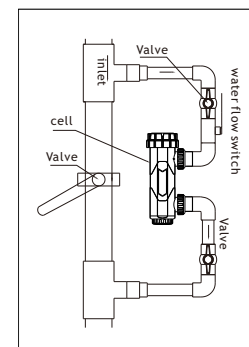

Figure 4
1. Install the electrolytic cell on the bypassed pipes after filtration of the pool cycling pipe system. And a valve must be installed in the main pipe. (see figure 4)
2. The water flow switch must be installed before the water inlet of the electrolytic cell. (see figure 4)